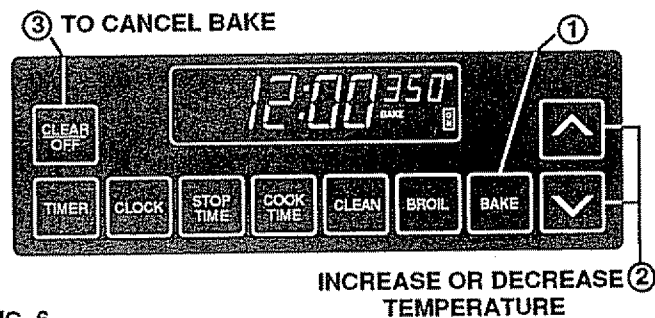

FIG. 6
3. After baking is complete, press CLEAR/OFF. See Fig. 6.